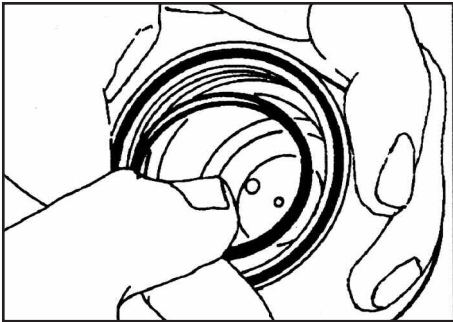

Figure 8
7. Remove the body O-ring that keeps the capillary tube separate. (Fig.8)